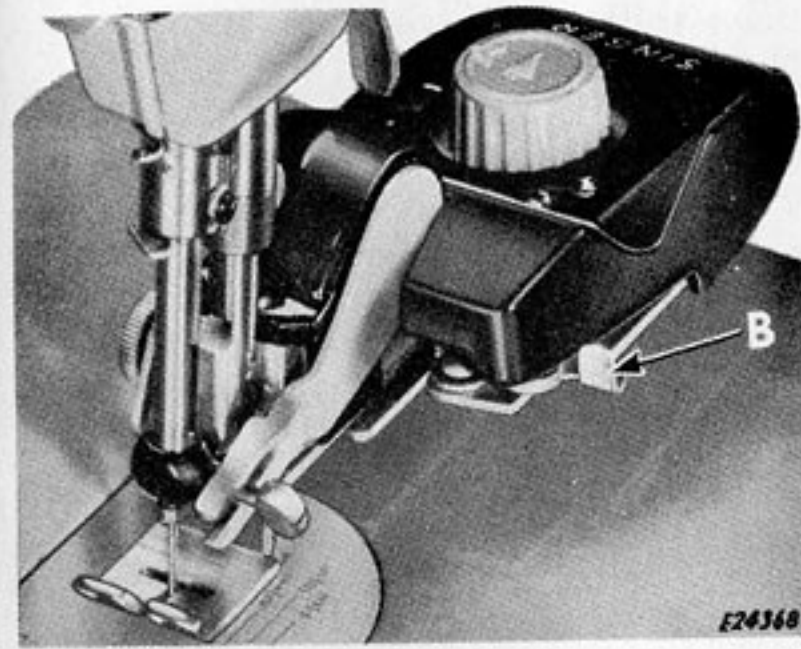

Fig. 10. To Adjust Zigzagger for Straight Stitching
Arrowhead Stitch Pattern 161003  produces a design which is ideal for ornamental purposes. The size of Arrowhead is determined by the bight setting and texture of material. Stitch setting should be short (approximately No. 30) for a solid effect. For any desired spacing between Arrowheads, pull lever **B**, Fig. 10, page 10 forward for straight stitching and count number of stitches for a given space. When desired spacing is attained, push lever **B** back for zigzag stitching. Arrowhead stitch is most distinct when bight is set at W and stitch regulator at No. 30.
2. Pull lever **B**, Fig. 10 forward. Plain sewing can then be done.